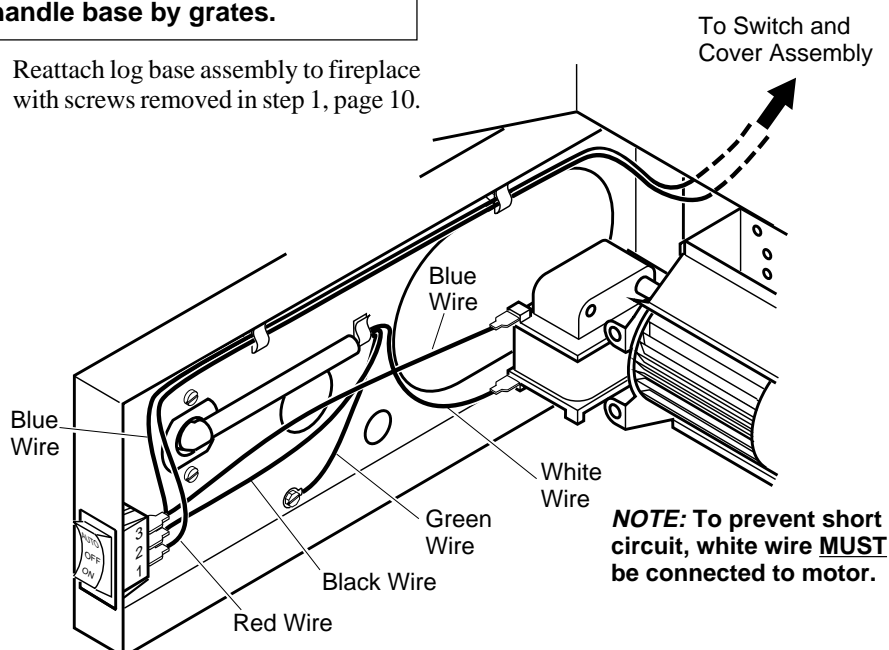

Figure 17 - Wire Attachment
11. Attach all five remaining wiring terminals to the appropriate switch or motor terminal. Carefully note the correct color coding (see Figures 17 and 19, page 11). Push female wire terminals fully onto male terminal.
12. Secure wires into the appropriate plastic wire clips (see Figure 17, page 11).